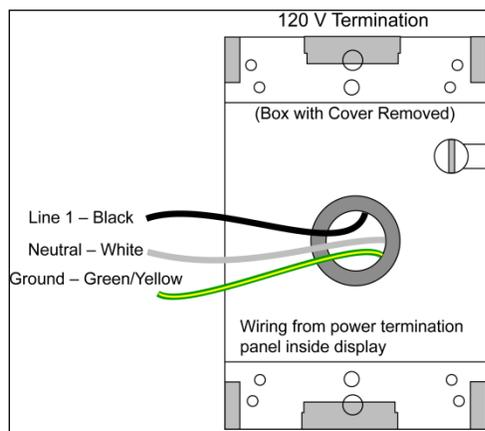
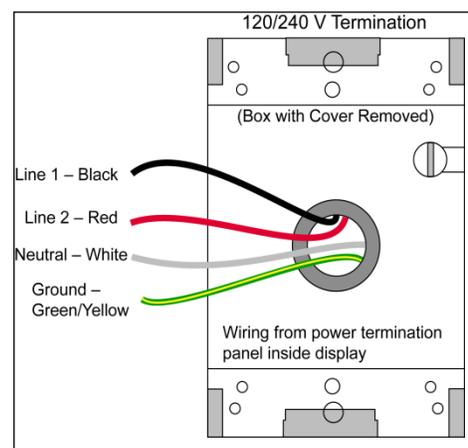

Figure 11: 120 V J box Termination
Figure 12: 120 / 240 V J box Termination
3. Inside the external J box, use wire nuts to connect the power wires to the wires coming from the display interior. Refer to **Figure 11** for 120 V AC and **Figure 12** for 120 / 240 V AC.